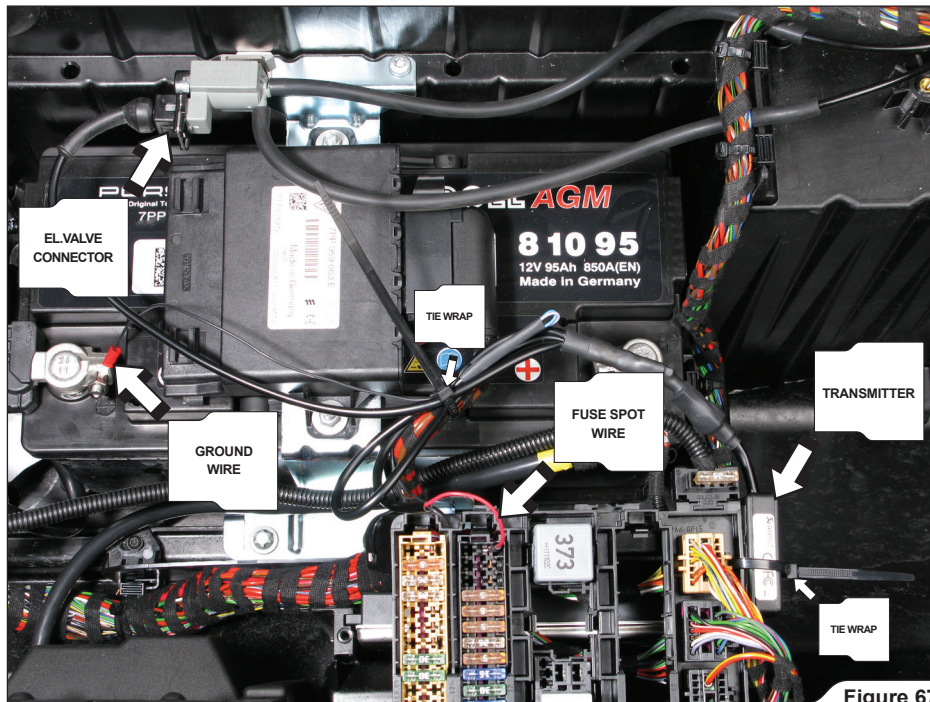

Figure 67
13. Link the transmitters red wire pin (power supply) to the **right** side of the free fuse spot, screw the black ground wire to the battery **negative** terminal, connect the connector to the electromagnetic valve and secure the transmitter, as shown (**Figure 67**).